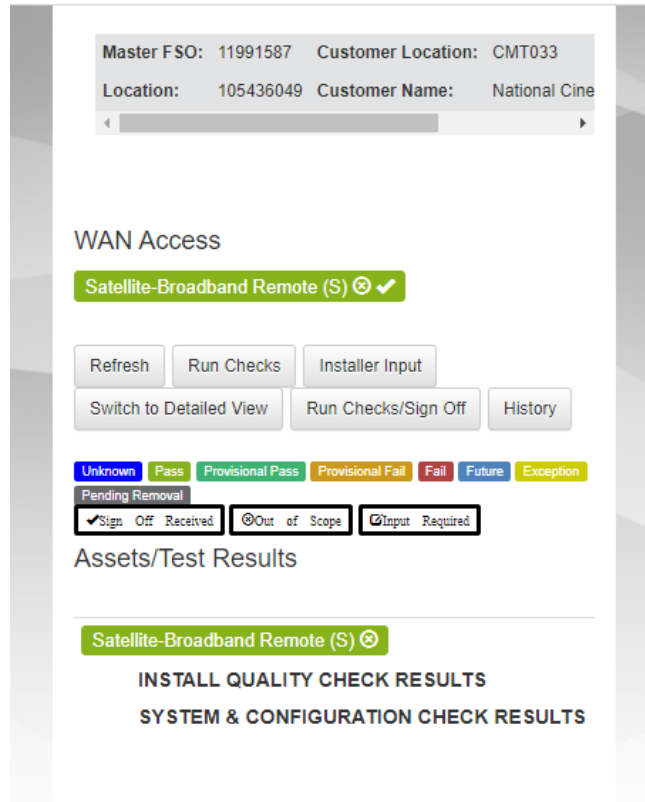

Figure 79: Run checks
2. The services and devices you installed are listed IVT (Figure 79). Services/devices that are not yet verified are highlighted in blue.
Note: Services are marked with an “(S)” and devices are marked with a “(D)” (Figure 79). Items with a note icon  will require additional input from the installer.